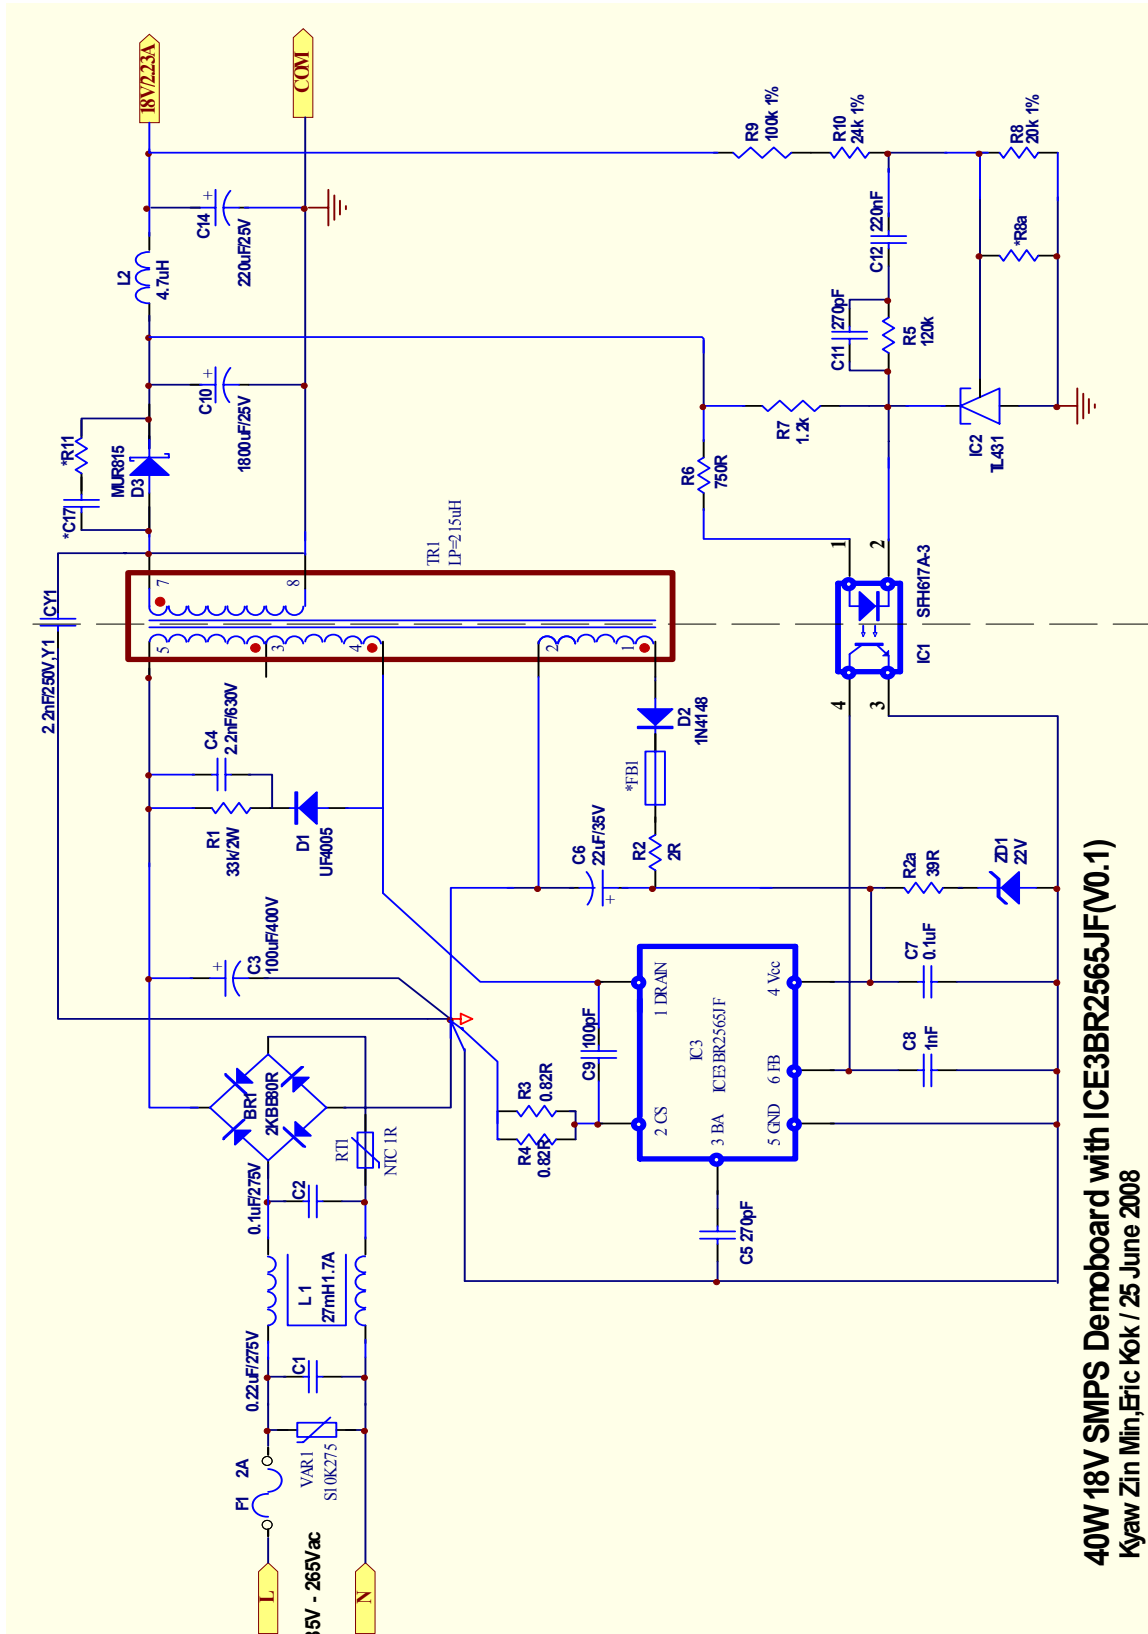

Figure 3 Typical application circuit with ICE3BR2565JF 40W 18V
where, R_{opto} : series resistor with opto-coupler at secondary side (e.g. R6 in Figure 3), R_{FB} : IC internal pull up resistor connected to FB pin ($R_{FB}=15.4K\Omega$), G_{opto} : current transfer gain of opto-coupler, G_{TL431} : voltage transfer gain of the loop compensation network (e.g. R5, R8, R9, R10, C11, C12 in figure 3), ΔV_{FB} : feedback voltage change (0.5V)
Usually there is a noise coupling capacitor at the FB pin to filter the switching noise and spike (e.g. C8 in Figure 3). However, if this capacitor is too large ($>10nF$), it would affect the normal operation of the controller. This capacitor should be as small as possible (without the capacitor is the best). In the mean time, it is found that this filter capacitor will also affect the output ripple voltage during burst mode; larger capacitance will get larger ripple voltage and smaller capacitance get lower ripple voltage.
It is particularly important that the V_{CC} voltage must stay above V_{VCCoff} (i.e. 10.5V). Otherwise, the expected low standby power cannot be achieved. The IC will go into auto-restart mode instead of Active Burst Mode. A reference V_{CC} circuit is presented in Figure 3. This is for a low cost transformer design where the transformer coupling is not too good. Thus the circuit R2a and Z1 is added to clamp the V_{CC} voltage exceeding 25V in extreme case such as high load and the V_{CC} OVP protection is triggered. If the transformer coupling is good, this circuit is not needed.
2. Add snubber circuit to the output rectifier: Most of the radiated EMI noise comes out from the output of the system esp. for a system with output cable. Adding snubber circuit (R11 and C17) to the output rectifier is a more direct way to suppress those EMI noise (refer to Figure 3).